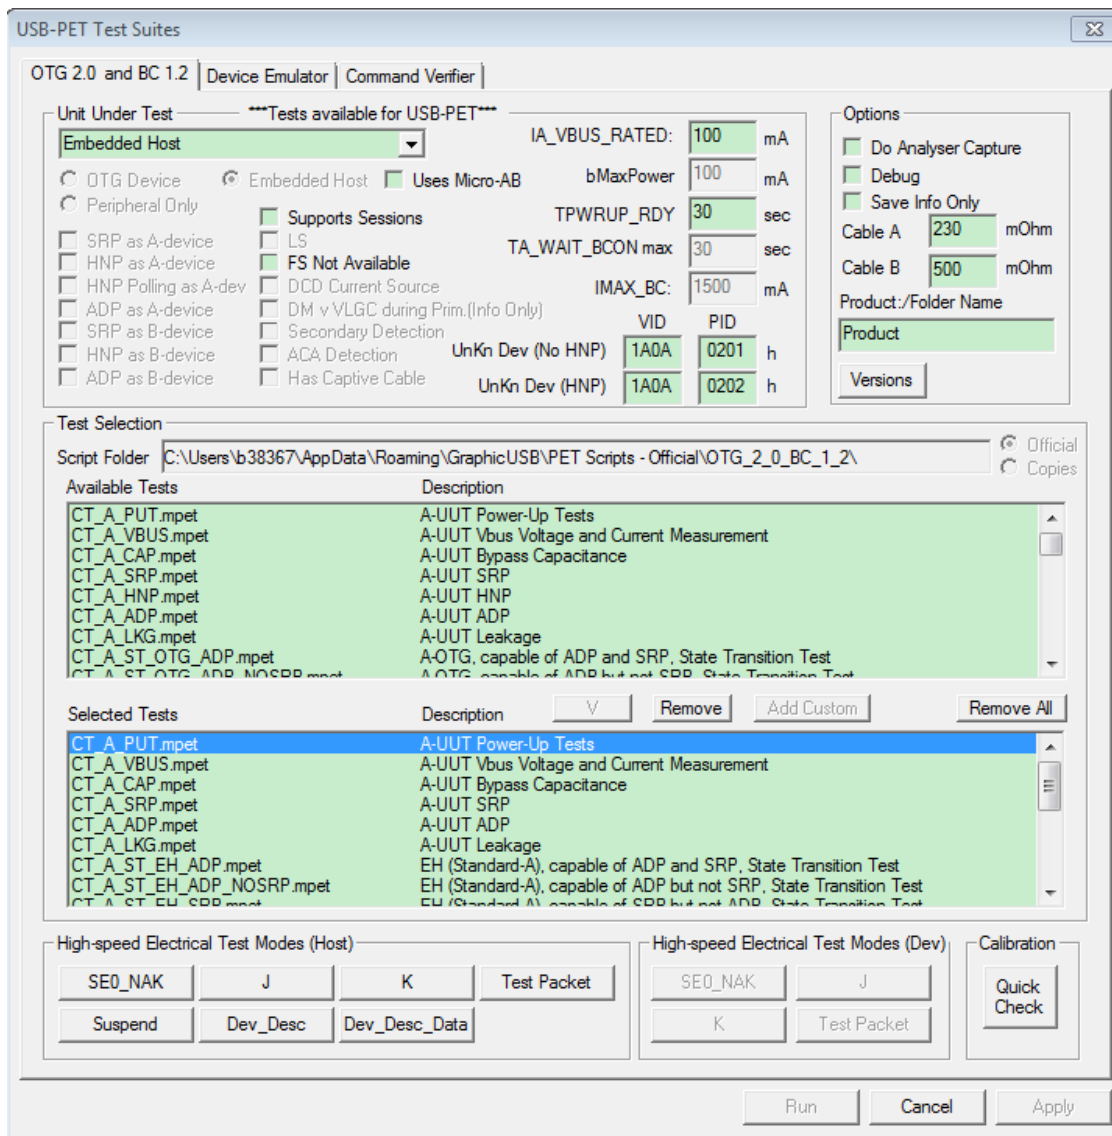

Figure 100. USB-PET Test suites
2. Click on **Operation** -> **Compliance Tester** on the menu bar. The Test Suite dialog appears as shown in Figure 100.